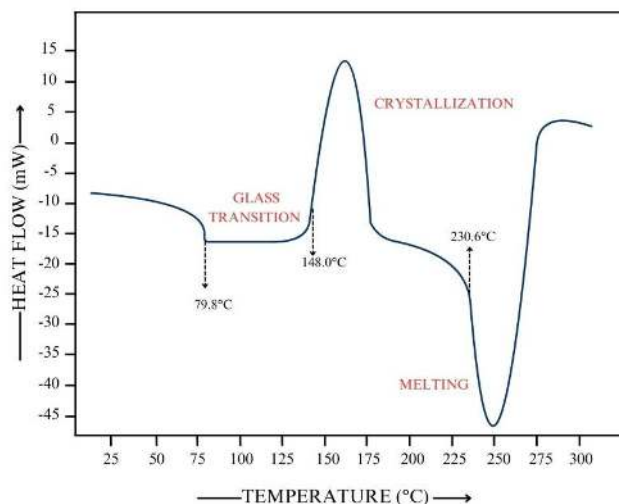

Figure 4.3. DSC of PET
A typical DSC curve is shown in Figure 4.3
**Activity 4.3:** Observe the DSC curve given in 'figure 4.3.' and answer the following questions.